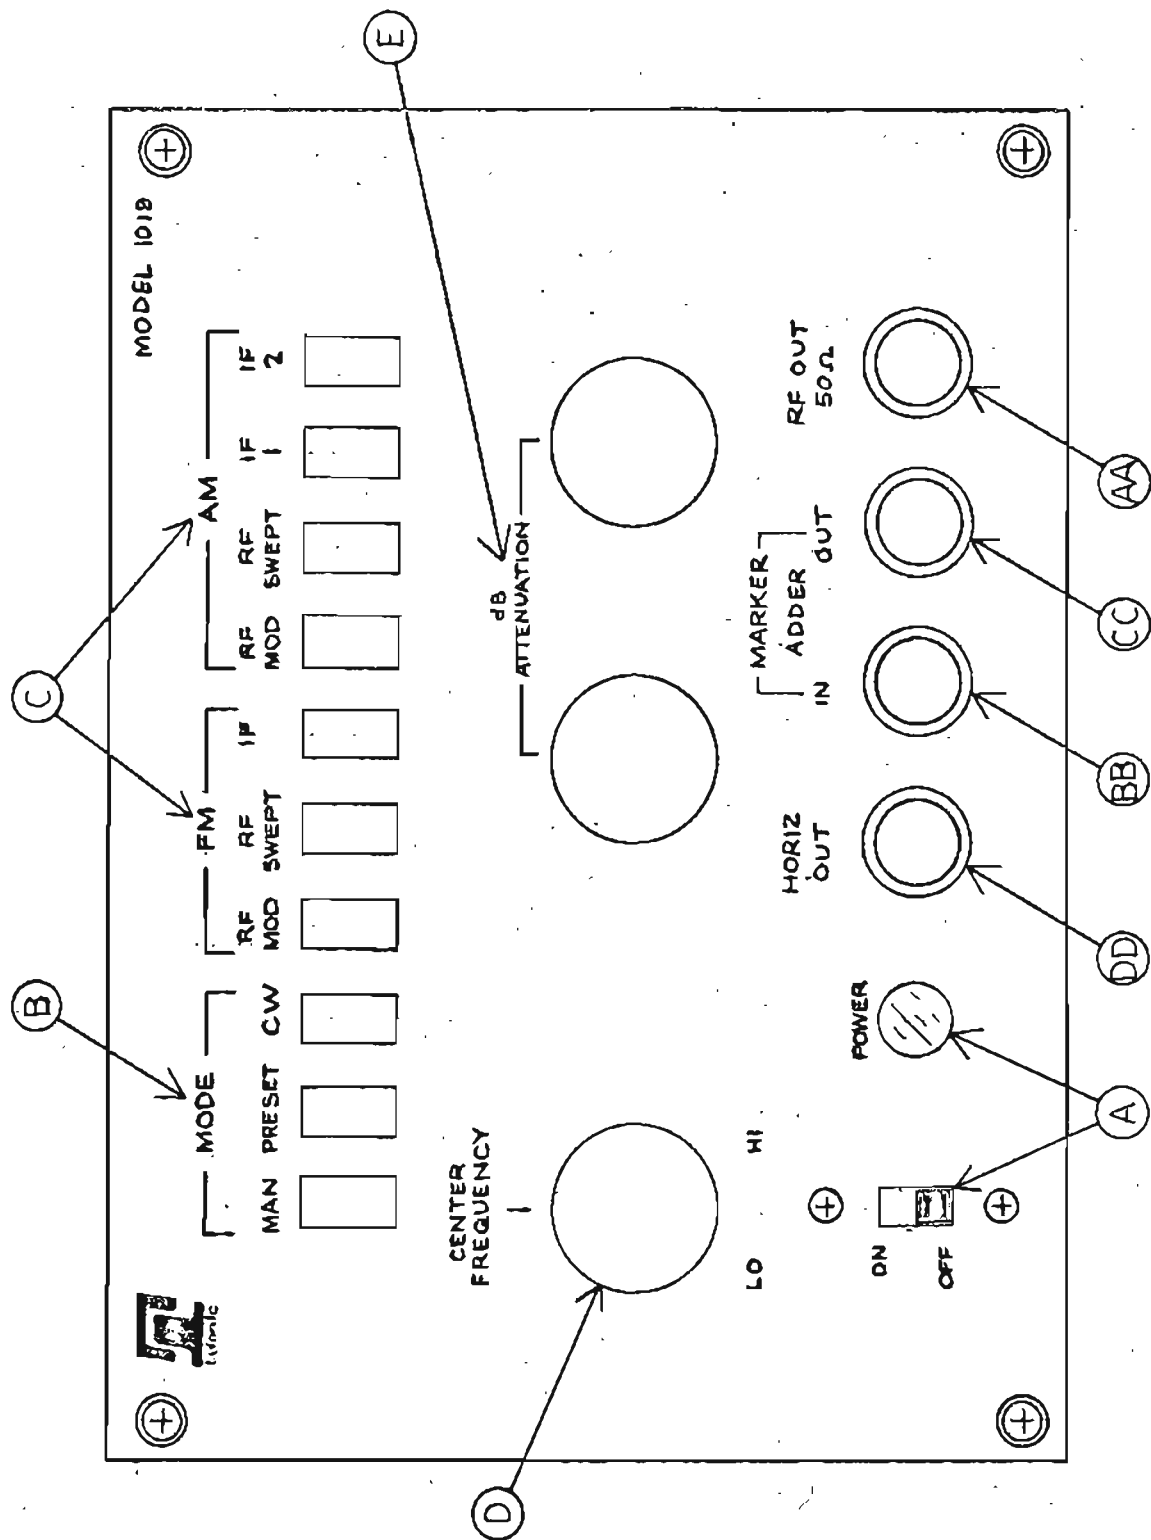

Figure 2-1
2.2 Front Panel Description (see Figure 2-1 for location of Front Panel Controls)